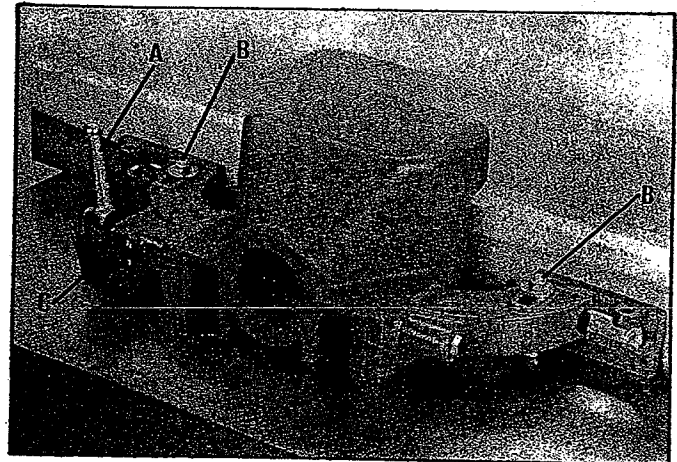

Fig. 22
Either half of the fence can be moved independently depending on the type of work you are doing. To move the fence, loosen lock handle (A) Fig. 22, and loosen one of the nuts (B) depending on which fence half is to be moved. Turn the knob (C) until the correct setting is obtained. Then tighten the nut (B) and lock handle (A).